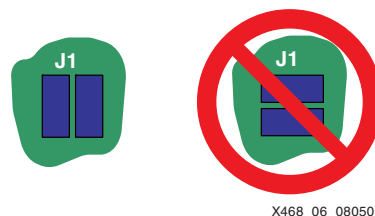

Figure 6: J1 Configured for the Atmel SPI PROM
4. Configure the boot select jumpers on J1 for the Atmel SPI PROM (Figure 6).